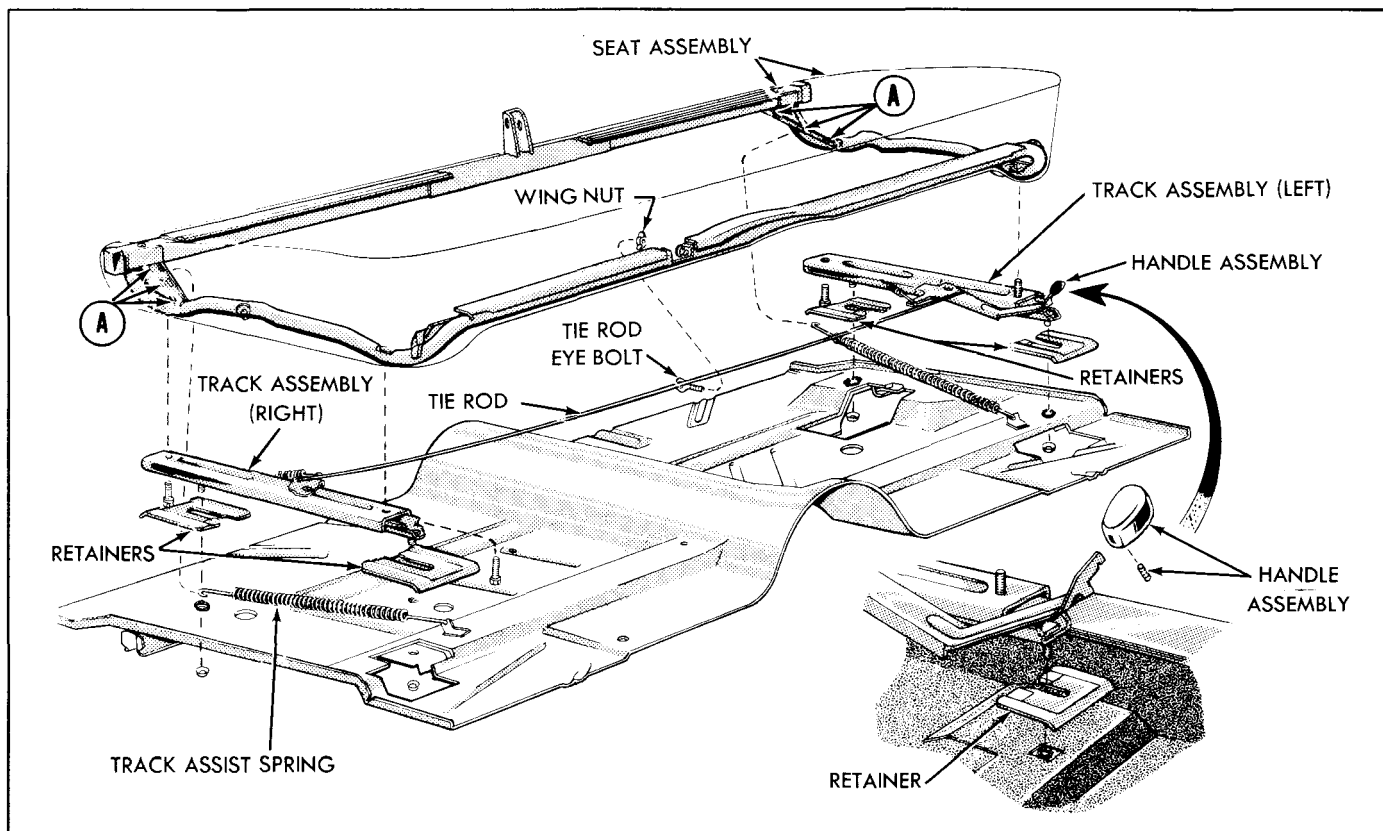

Fig. 13D-1—Front Seat—(61CM-8008)
1. Disconnect and remove the front seat track assist springs from the seat frame. See figure 13D-1 Detail "A".